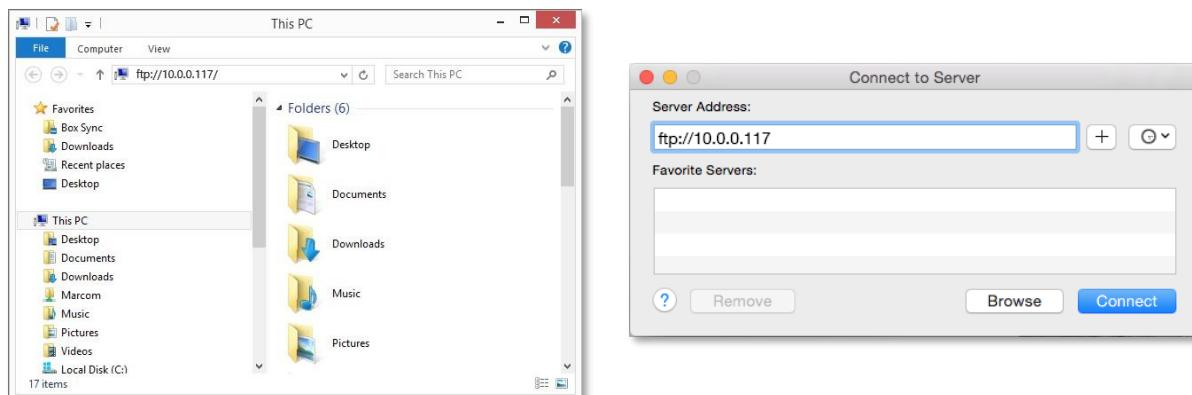

Figure 53: Enter the Digital Analyzer's IP address in File Explorer (left) or Finder (right).
1. On a Windows computer, open Windows Explorer or File Explorer. On a Macintosh computer, open Finder and select **Connect to Server...** from the Go drop-down menu. Once the file manager is open, type **FTP://(IP\_address\_here)** as shown in **Figure 53**.